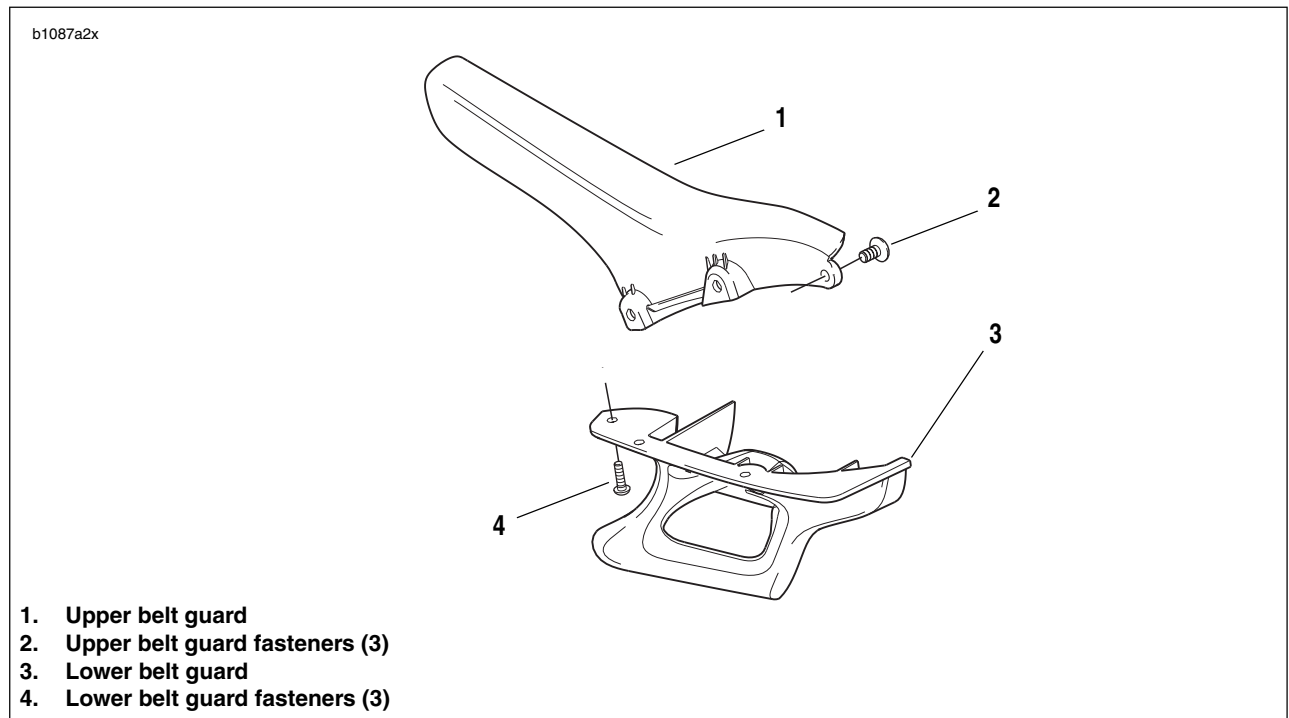

Figure 2-82. Belt Guard Assembly
1. See Figure 2-82. Install upper belt guard (1) and fasteners (2, 4).